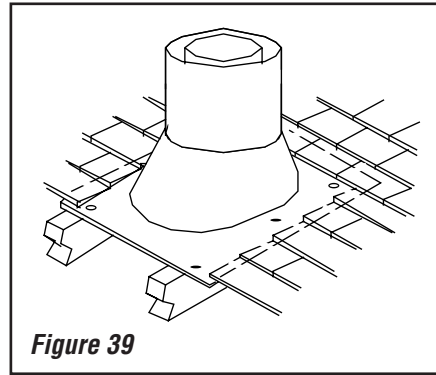

Figure 39
Step 7. Secure flashing by nailing along the perimeter into roof using 8d nails. If shingled roof, slide upper end and sides of roof flashing under shingles (trim if necessary), seal the top and both sides of the flashing to the roof with roof caulking. Cover nail heads with roof caulking (**Figure 39**).